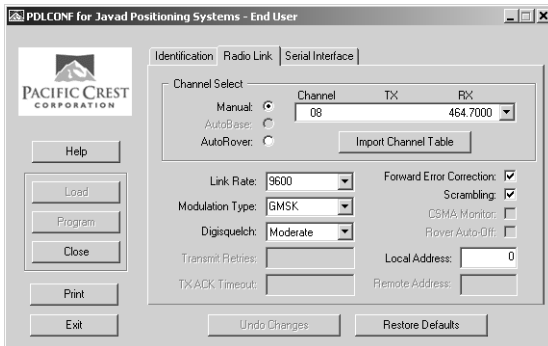

Figure 2-31. PDL Radio Link Tab
10. Click the Radio Link tab and set the following parameters (Figure 2-31 on page 2-36):